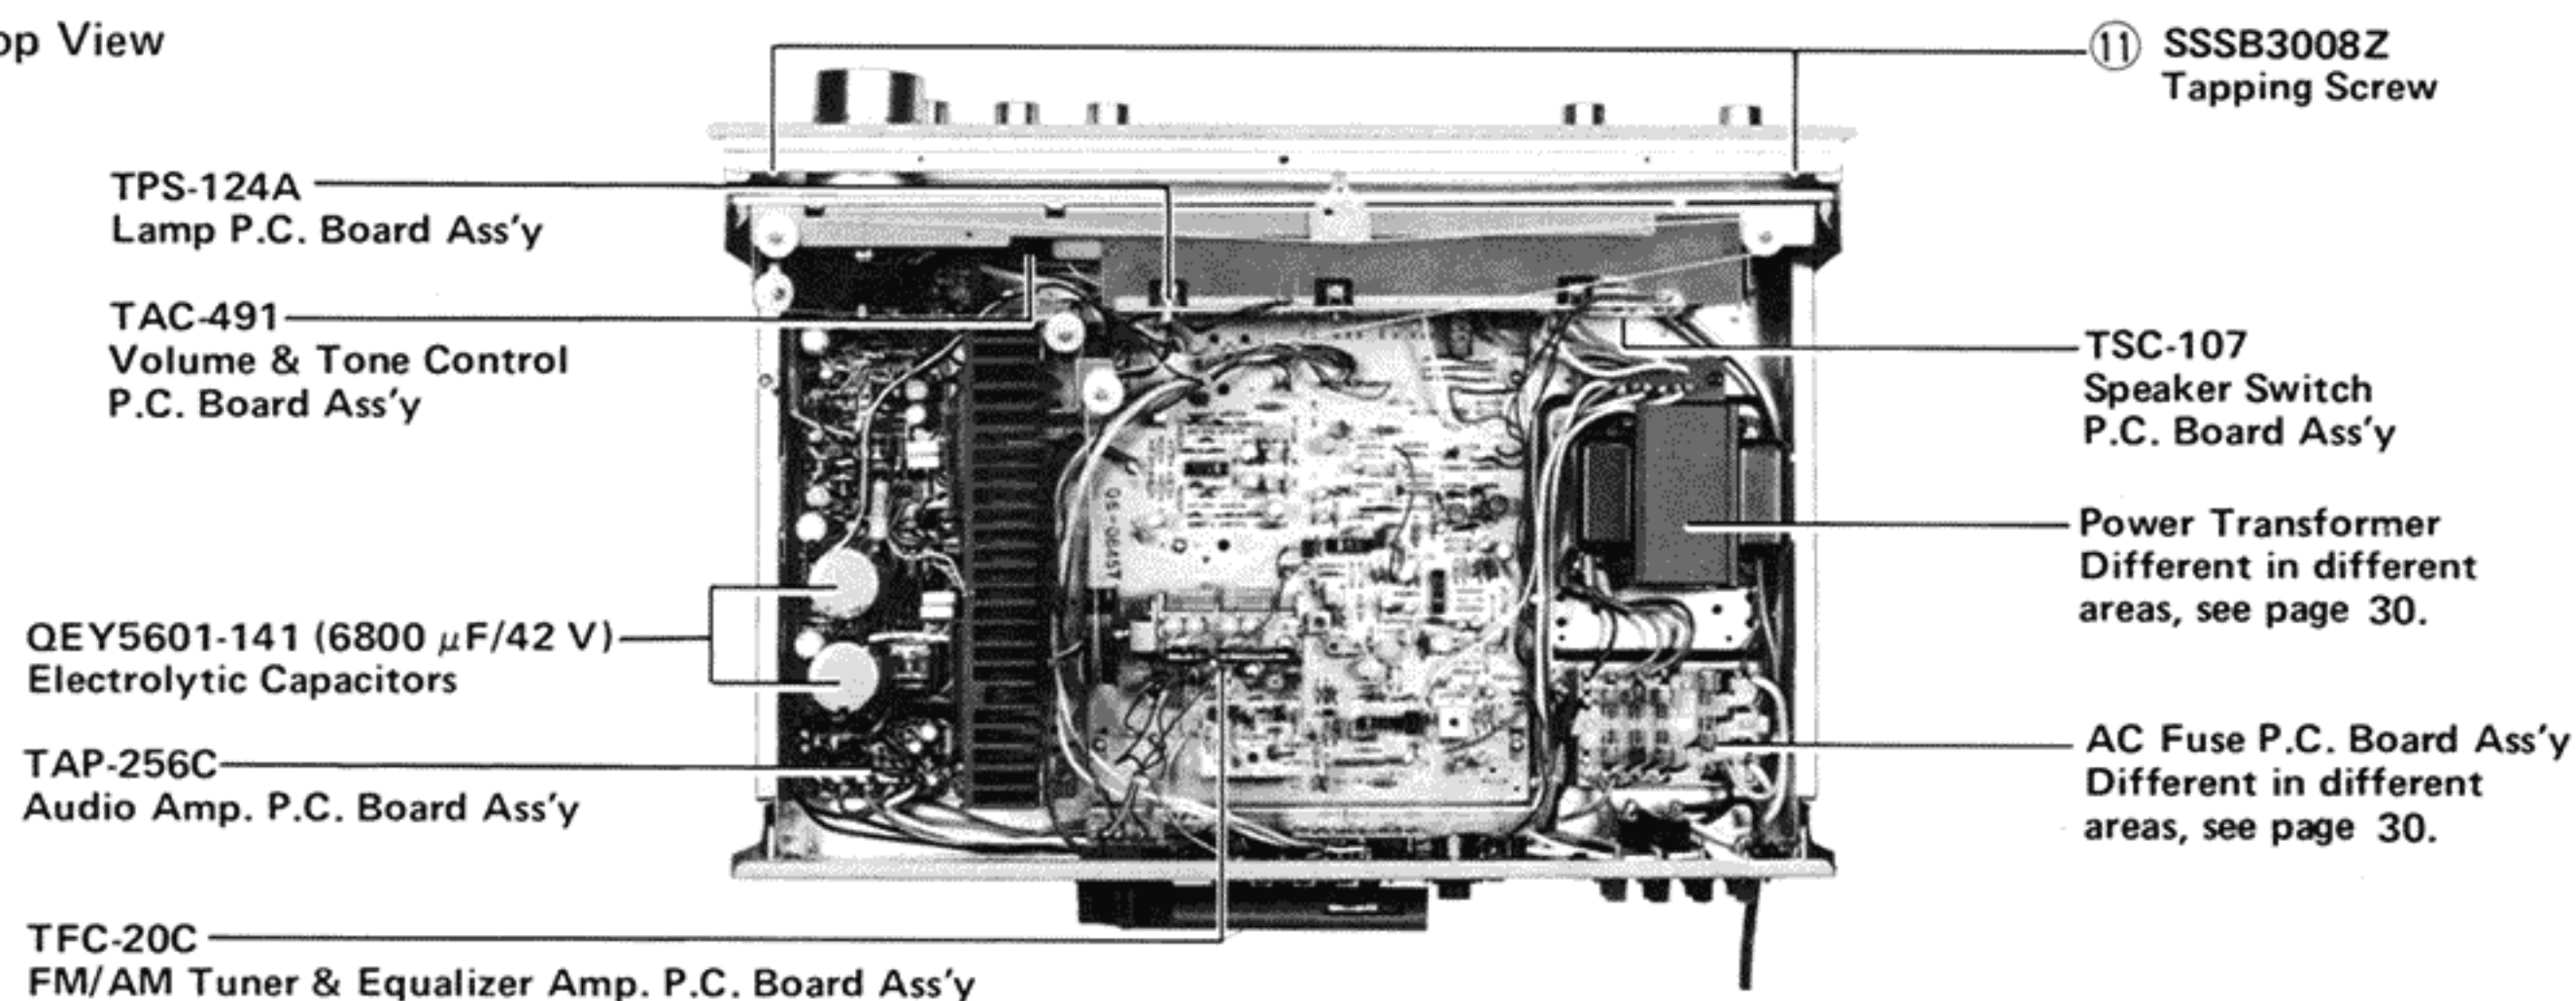

Fig. 5
4. Remove two screws item no. 11 located on the top of front panel. Refer to Fig. 5.